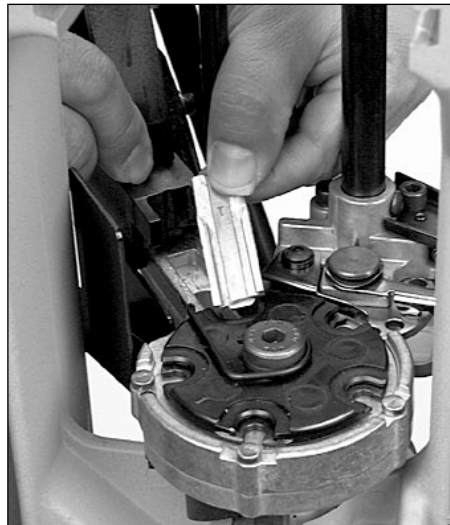

FIG 175
Step 11) Install the new Station 1 locator **FIG 175:**